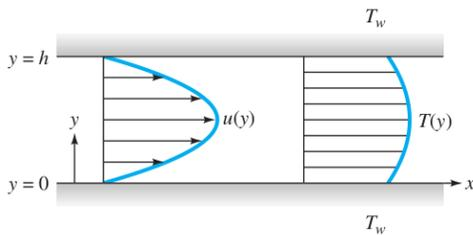

Fig. 4.11
- 4.11 As mentioned in Sec. 4.10, the velocity profile for laminar flow between two plates, as in Fig. 4.11, is